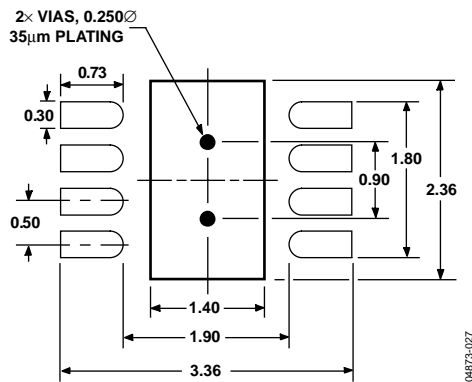

Figure 27. 3 mm × 3 mm LFSCP Pad Pattern (Dimensions in millimeters)
- The pad pattern is shown in Figure 27. Follow the pad dimension closely for reliable solder joints, while maintaining reasonable clearances to prevent solder bridging.